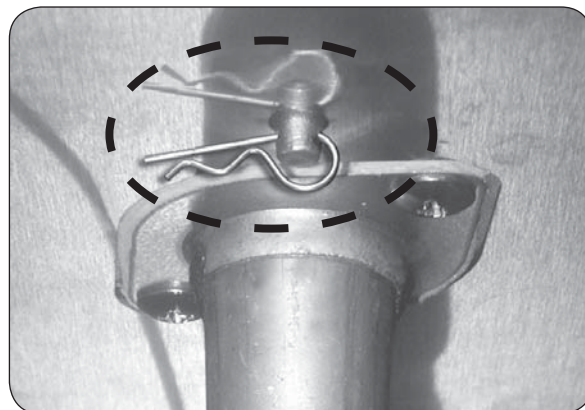

Fig. 21-1 Remove burner clip
3. Reach up under the burner support and remove the burner retaining clip (see Fig. 21-1), located at the rear of the burner pipe.